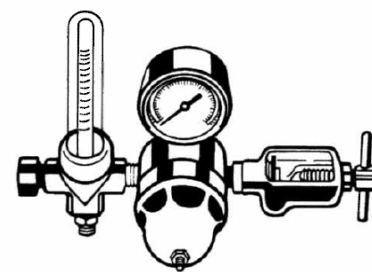

Figure 2
Back-Pressure Compensated (Figure 2)
- (b) Back-Pressure Compensated Regulator/Flowmeter (Figure 2)—Close the needle valve by turning the knob clockwise until it seats, before opening the cylinder valve. Do not apply excessive force; this can damage the needle and its seat.